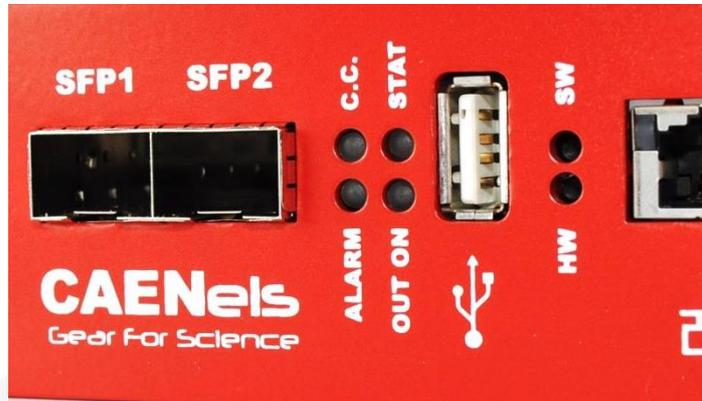

Figure 12: front panel indicators
The FAST-PS has four (4) front panel LED indicators as shown in the following **Figure 12**.